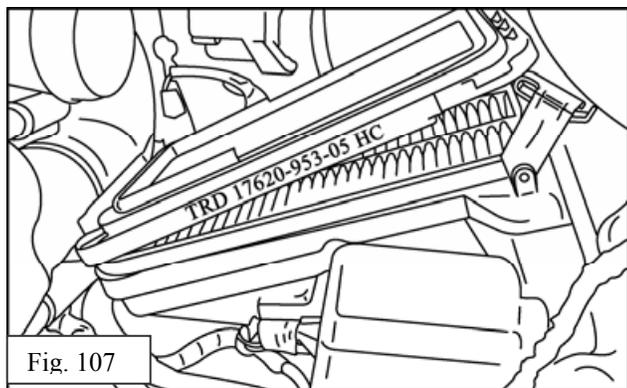

Fig. 107
- (s) Install TRD supplied air filter See Fig. 107.